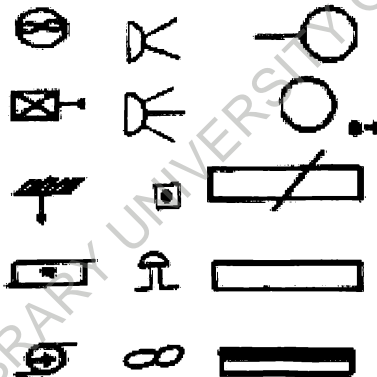

Figure 2.
4. Identify the electrical fixtures shown in Fig.2.